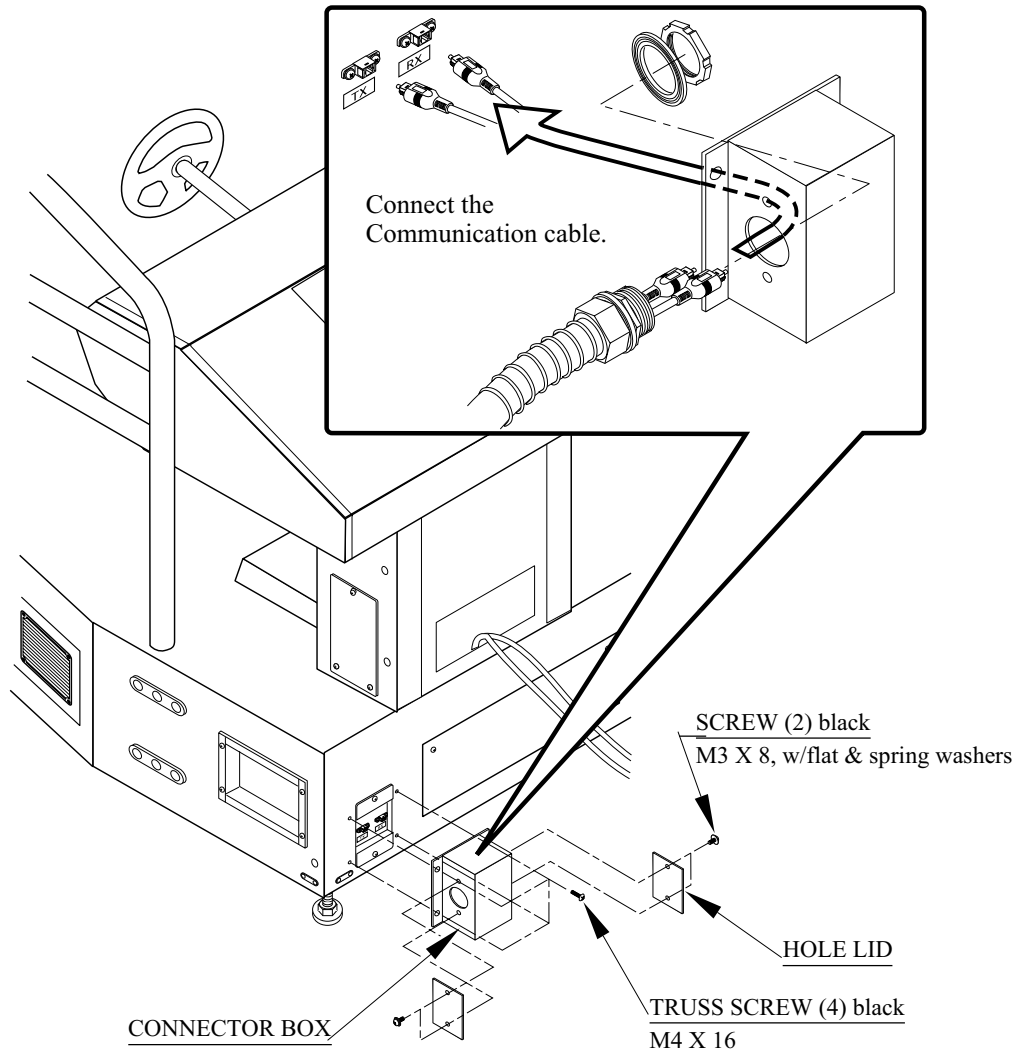

FIG. 20. 2 a
- ④ Remove the 2 screws to detach the hole lid from the connector box. Depending on the number and arrangement of the interconnected game machines, you may remove either or both of the 2 hole lids. (Fig. 20. 2a)
- ⑤ Attach CONNECTOR 22 to the both ends of FLEX TUBE. First, disassemble CONNECTOR 22 (Fig. 20. 2 b).
- ⑥ First pass the plastic nut through the flex tube. Otherwise, the following work can not be performed and therefore, be very careful of this point.